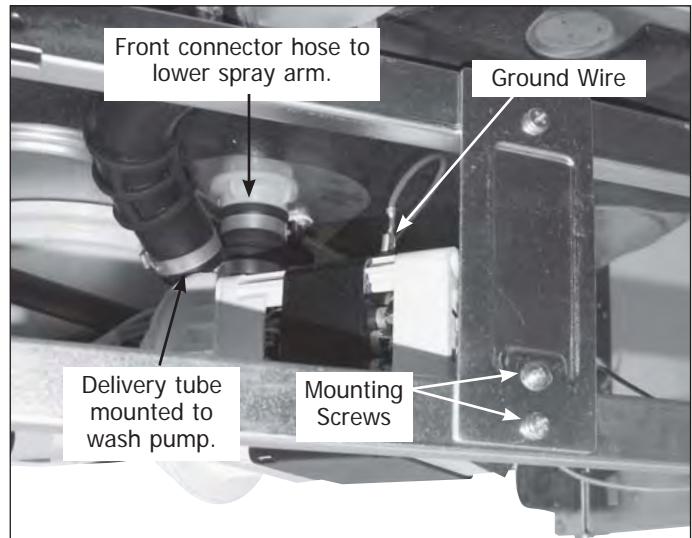

Figure 4-28.
7. Extract the two screws from the rear of the unit securing the motor mounting bracket to the rear frame cross bars before laying dishwasher on its back. Make sure there is protection for the floor before unit is laid down. (See Figure 4-28)
10. Remove hose clamps from delivery tube, lower spray arm support, and inlet hose to remove motor and pump assembly. (See Figures 4-28 and 4-30)